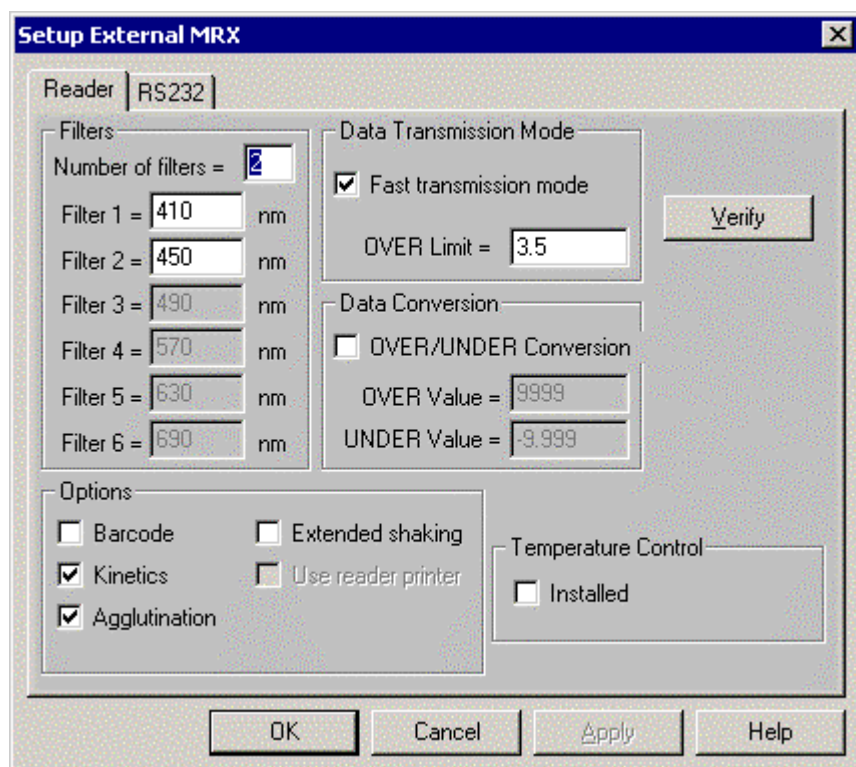

Figure A-4 The Setup External MRX Dialog Box - Reader Tab
- 6 Select *External MRX* and click **Setup** to present the *Setup External MRX* dialog box (Figure A-4).